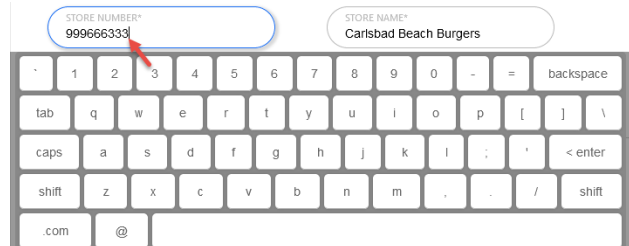

Fig. 1.9
**Direct Access Fields:** These are fields you can type directly into. When you click the cursor or tap in this field, a pop-up keyboard also opens (see Fig. 1.9). This allows you to enter information using a mouse (without the need for a physical keyboard).